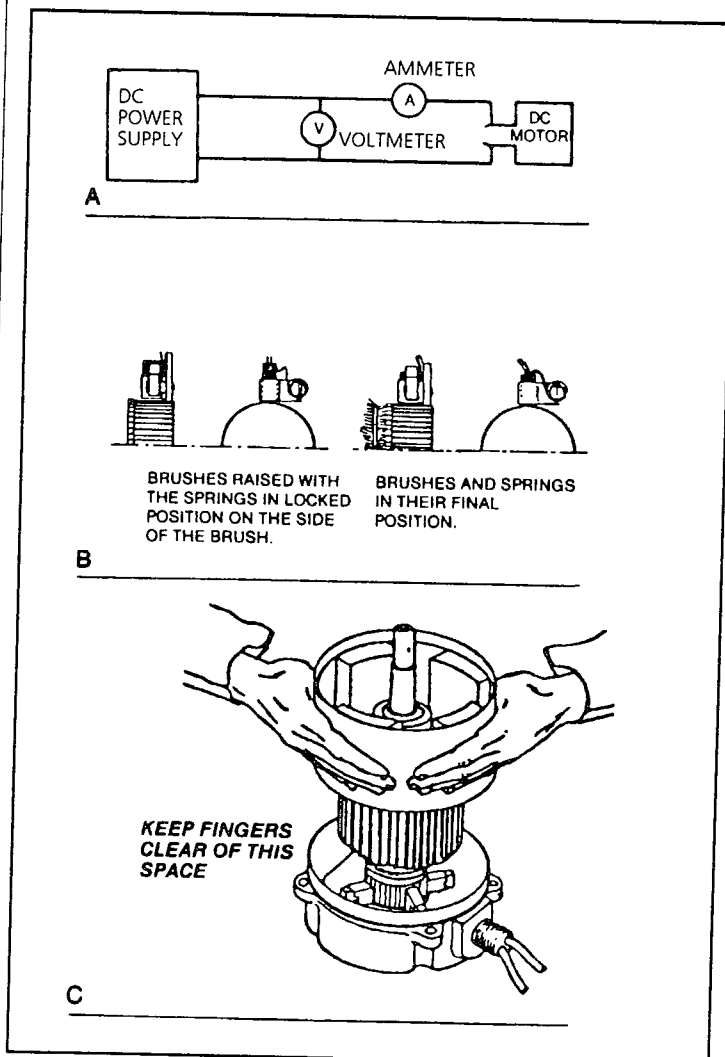

Figure 4-21: Electric Motor Service
4.10 Electric Motor (Figure 4-21)